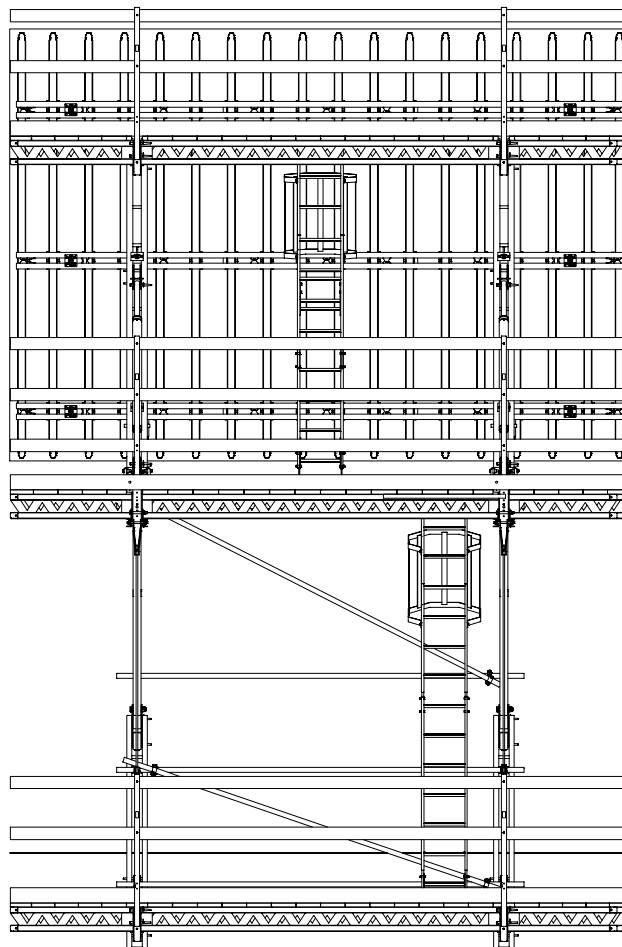

Fig. B5.02a
- Install hatch directly next to the bracket. As a result, the ladder descent is between the horizontal and diagonal scaffold tube bracing of the bracket unit. (Fig. B5.02a)